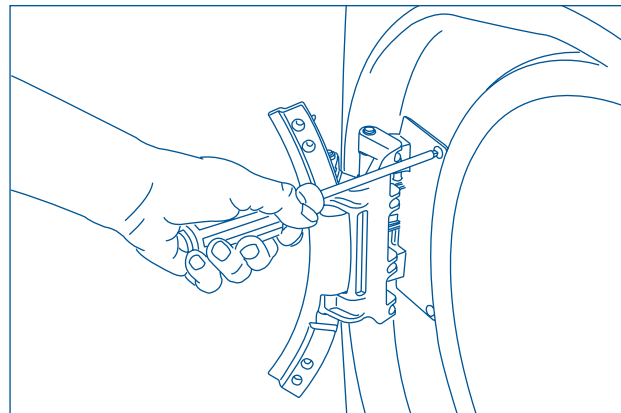

Figure 4-10.
2. Using a #2 square bit screwdriver, with the hinge in open position, extract two short, coarse thread, panhead screws on hinge plate. (See Figure 4-10)